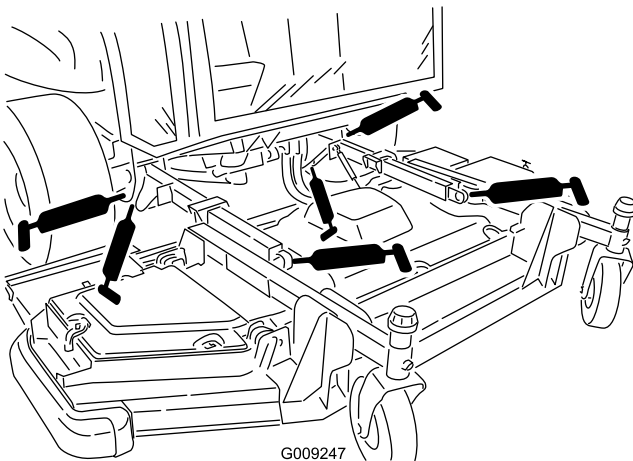

Figure 55
- 2 lift arm bushings (Figure 55)
- 2 lift arm ball joints (Figure 55)
- 2 front deck lift cylinder pivots (Figure 55)